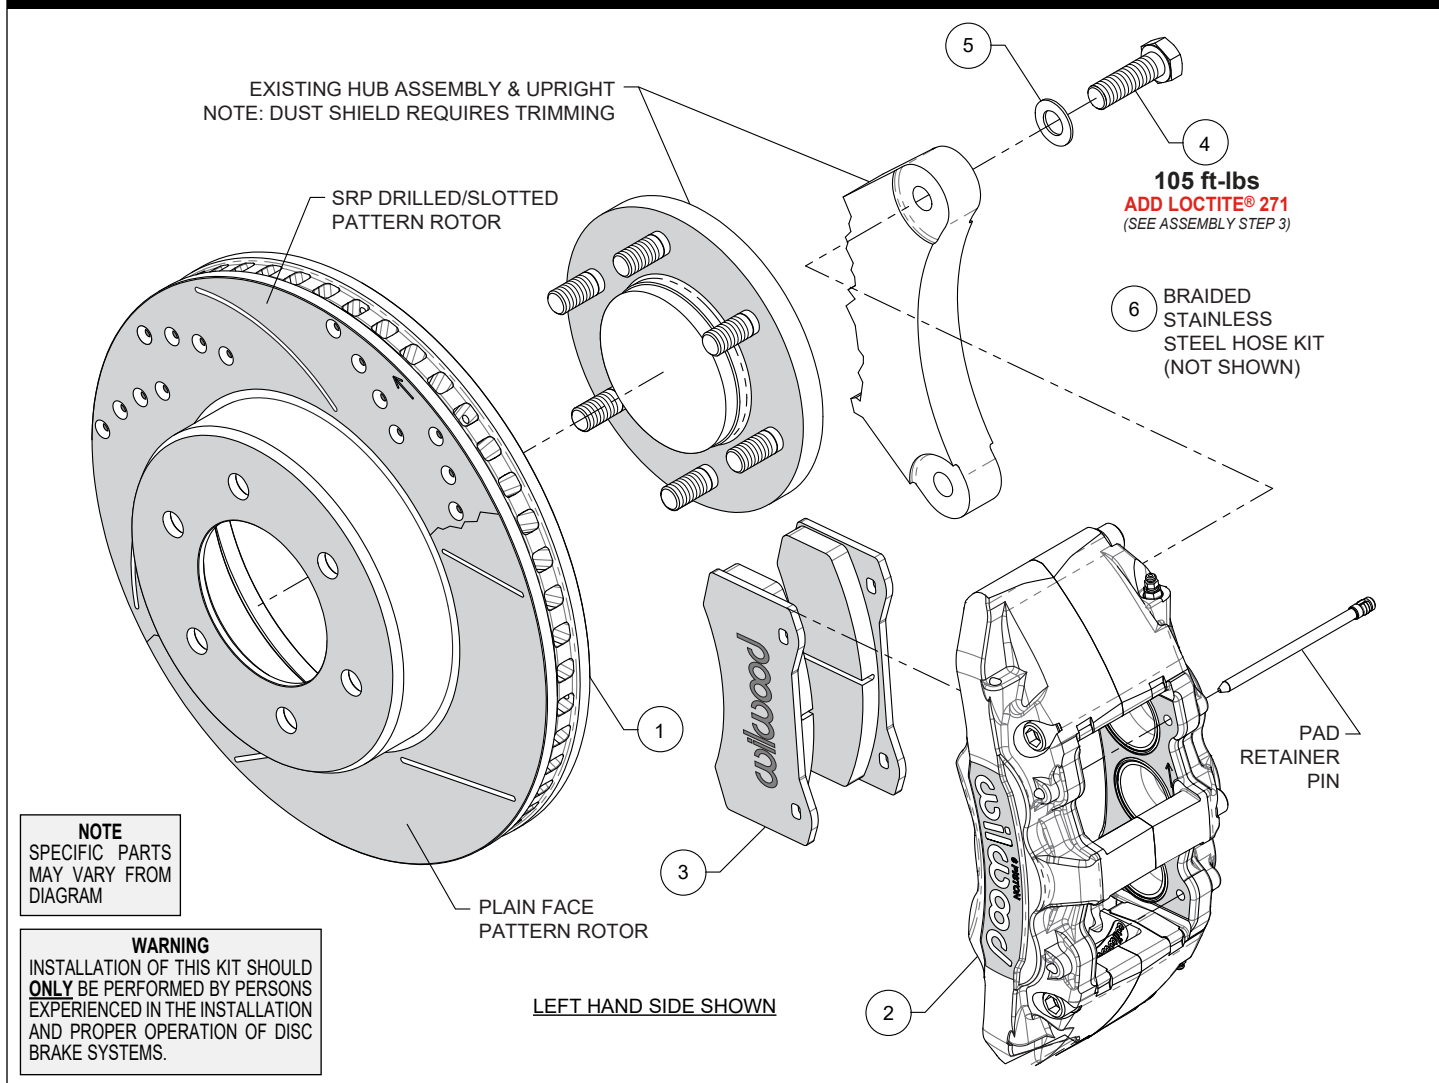

Figure 1. Typical Installation Configuration
Numbers in parenthesis refer to the parts list and Figure 1 on the preceding pages.
STEP 1 Slide the rotor (1) onto the hub. **NOTE:** The rotor must fit flush against the hub flange or excessive rotor run out may result. Install three lug nuts (finger tight) to keep the rotor in place while continuing with the installation, Photo 1.
STEP 2 Remove the two pad retaining pins from the caliper (2), Figure 1. Insert the brake pads (3) into the caliper, with the friction material facing the rotor, as shown in Photo 2. Secure the brake pads in place with the pad retaining pins, Photo 3 and Figure 1. **CAUTION:** Ensure pad retaining pins are completely engaged into caliper. It is recommended to use a small flat punch and hammer to tap the pins in until they are fully seated.
STEP 3 **NOTE:** This kit contains distinct right and left hand calipers that must be mounted in a specific direction, as described below. Ensure that the caliper is mounted so the largest pistons are at the rotor exit end of the caliper, in relation to the forward direction of the rotor. Mount the caliper (2) onto the OEM caliper mounting bosses of upright using bolts (4) and washers (5), as shown in Figure 1. Apply red *Loctite*® 271 to bolt threads, and torque to value shown in Figure 1.
STEP 5 Attach brake line to caliper. **NOTE:** OEM rubber brake hoses generally cannot be adapted to Wilwood calipers. Install Wilwood's braided stainless steel flexline hose kit (6), p/n 220-17529, included with this kit. The caliper inlet fitting is a 1/8-27 NPT.